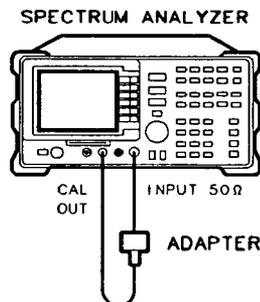

Figure 2-16. CAL FREQ Adjustment Routine Setup
1. Connect the CAL OUT to the INPUT 50Ω (*Option 001*: INPUT 75Ω) with the CAL cable. See Figure 2-16.